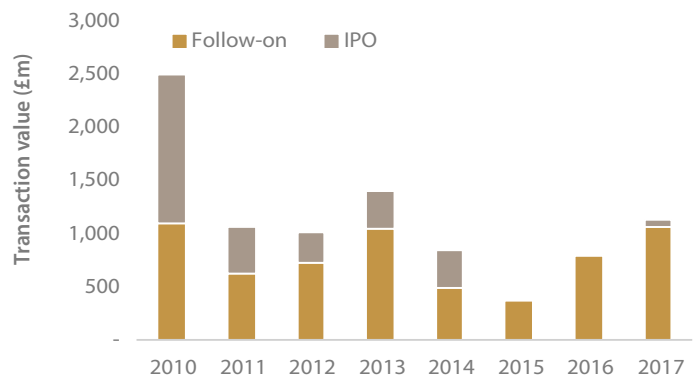

Figure 2: UK North Sea M&A. (Source: Company reports, I.H.S Herold)
For funding you may need to consider a corporate transaction; a strategic transformation may be needed as part of the preparation for raising funds from the capital markets, public and private. The UK North Sea has seen a significant increase in M&A (mergers and acquisitions) activity in 2017 after several years of downturn (Figure 2).
The 3D data assists in building a geological model to better predict sand presence where seismic identification of Paleocene reservoir is challenging due to the existence of the basalts. Flett reservoir sands are known to interdigitate with basalts, as proven by the Rosebank and Bunnehaven discoveries, however, the strong acoustic impedance of the basalt masks the seismic expression of the sands in these locations. Elsewhere, there remains evidence for sandstone presence controlled by older intrusions. Figure 2 shows an example of Flett-aged sediments onlapping older Lamba/Vaila sediments due to the intrusion below. The onlap suggests these Flett sediments ponded around the Lamba/Vaila forced fold structure (A) formed by the intrusion. Furthermore, it appears that a later Balder-age intrusion has inverted the Flett (B), causing the ponded sediments to sit structurally shallower than the Lamba/Vaila structure that controlled their deposition. Further study of these sediments and their relationship with the multi-phase intrusions is required; however, this suggests that understanding the local structural timings and depositional mechanisms is critical in play concept development and prediction of lithologies.
Figure 2: Evidence for inflation anticlines controlling Flett sediment deposition on 3D seismic data. Higher amplitude Flett sediments (between the yellow and blue horizons) onlapping an older inflation-related anticline (A). This is followed by a separate later inversion of the Flett sediments (B).